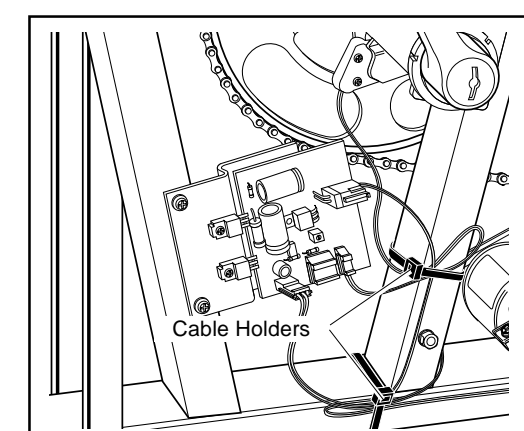

Fig. 5
4. Since the panel keyboard is fixed to the control unit with silicon, cut the silicon with a sharp cutter (Fig. 4). Peel the panel keyboard off the surface of upper body. (Fig. 5)